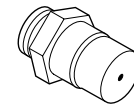

Figure 32
Step 9. Unscrew the orifice from the manifold and replace it with the one provided with the kit, #49 (0.073) for natural gas units and (0.045) for propane (**Figure 32**).